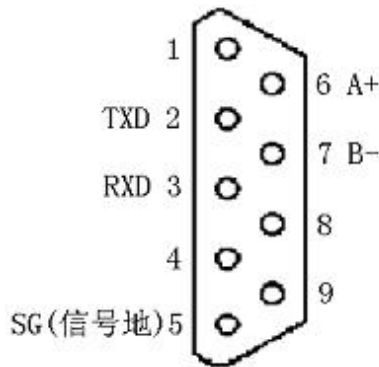

Figure4. 9-pin Standard D-Sub socket
4.5 Serial communication connection(Figure 4)
Please connect pin 2(TXD) , pin 3(RXD) and pin 5(SG) showed in figure 4 to PC's standard RS232 serial port's corresponding pin 2(RXD),pin 3(TXD) and pin 5(Signal COM);
Please connect pin 6(A +) , pin 7(B -) showed in figure 4 to the Master(PC)'s standard RS485 serial port's corresponding pin(A +) , pin(B -). In fact, this is the Half-Duplex RS485 Communication Mode, you should set every 8C Accumulator to the different address, the Master(PC) can discern every 8C Accumulator by the different address, in this mode you can use one Master(PC) communicate with 16 8C Accumulators (if you want know more about the communication protocol, please read the Appendix One).